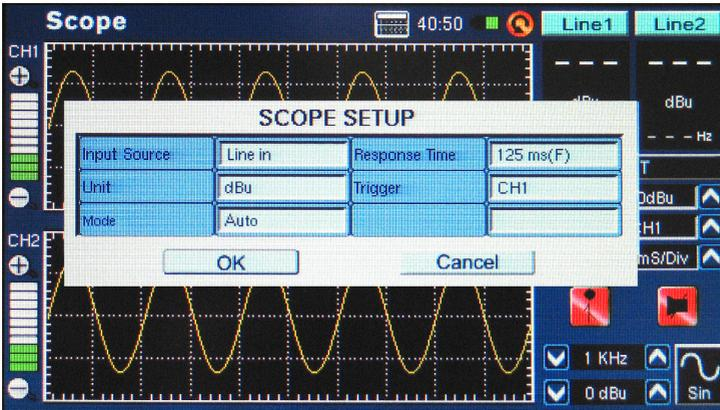

figure 52
1. Enter the SET menu within the Scope function (figure 52). Here users can adjust the input source, unit, response time and trigger. The scope can be used for a multitude of measurements, both through the mic and line inputs.